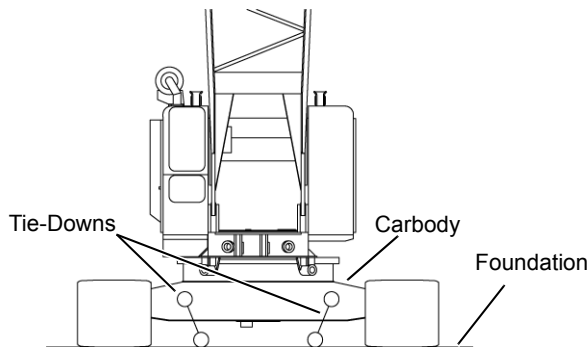

FIGURE 2-8
1. Crawler-mounted crane with carbody anchored with tie-downs to the foundation (Figure 2-8).